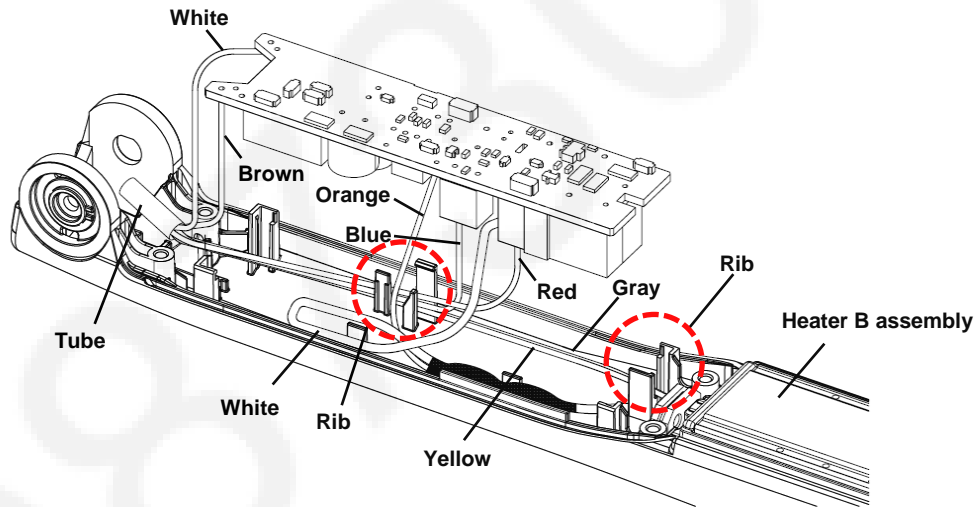

Figure 1.
(1) Assembled HEATER B ASSEMBLY with PRESS PLATE by arrangement Lead wire as figure 1.